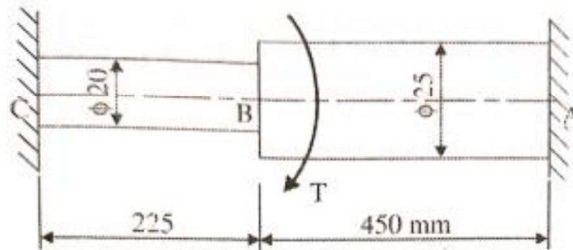

Fig. 8
- b) A stepped shaft of same material with two different diameters is held against rotation as shown in Fig.8. If the allowable shear stress in the shaft is 43 MPa, what is the maximum torque that can be applied? Take  $G = 84 \text{ GPa}$ . [7]